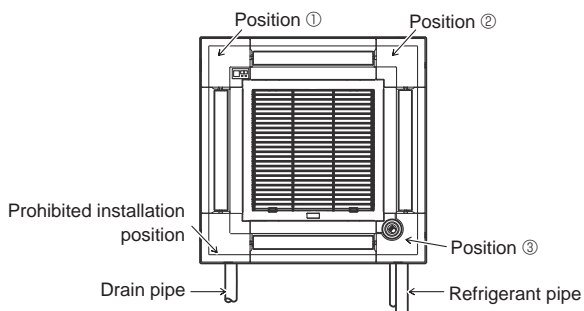

Fig. 9-11
The signal receiver corner panel can not be installed on the drain pipe side for the main unit. (Refer to Fig. 9-11)
- The i-see Sensor corner panel should be fixed onto the grille (①) with screw (③).
- * If the position of the i-see Sensor was changed from default position (position ①) to the other position, change the function settings. (Refer to page 13 and Fig. 9-11)
- The i-see Sensor corner panel can not be installed on the drain pipe side for the main unit. (Refer to Fig. 9-11)